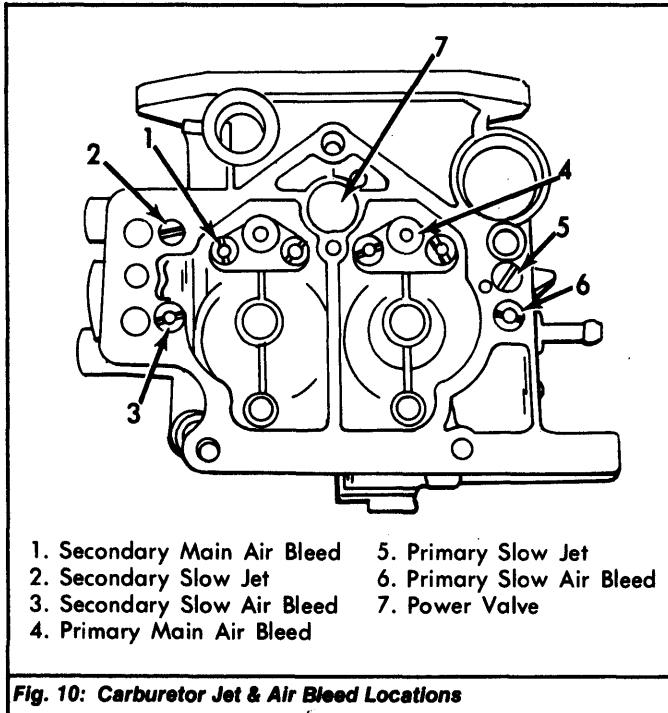

Fig. 10: Carburetor Jet & Air Bleed Locations
6) Remove idle jets, main jets, and all air bleeds from main body. See Fig. 10. Remove power valve. Remove curb idle adjusting screw and spring from lower body. Remove primary and secondary discharge nozzles, retaining screws and washers. Remove nozzles and gaskets.